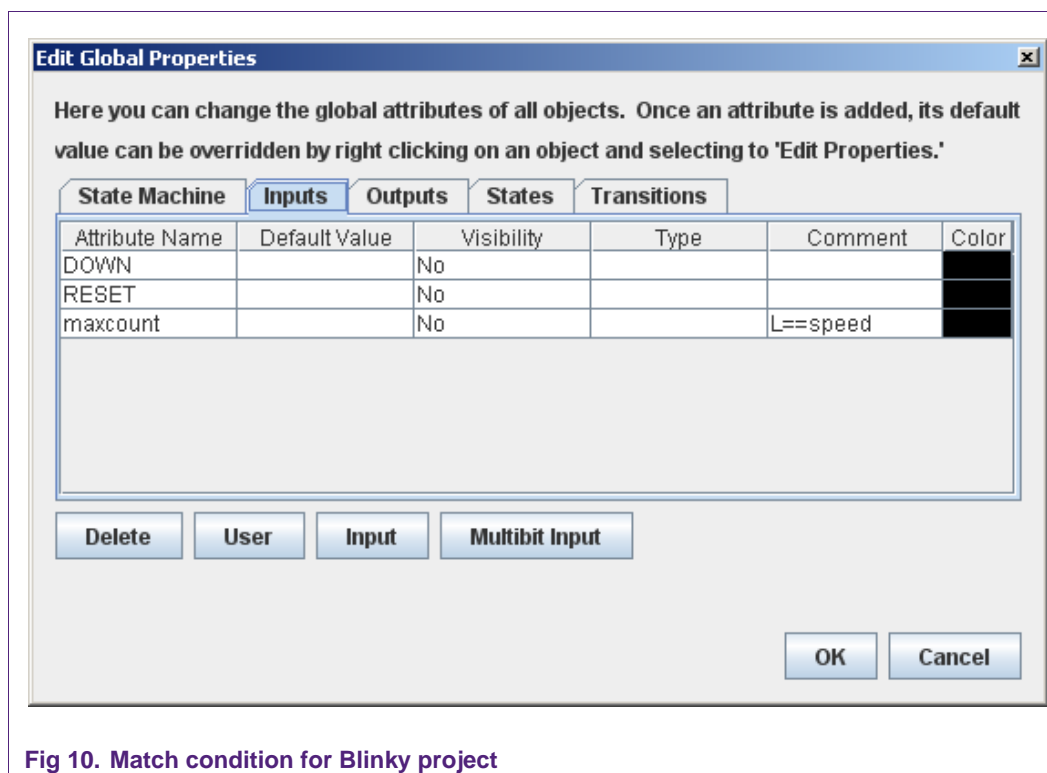

Fig 10. Match condition for Blinky project
- the counter reaches the value *speed* (which is what *maxcount* has defined as a match value in the global table, see Fig 10)